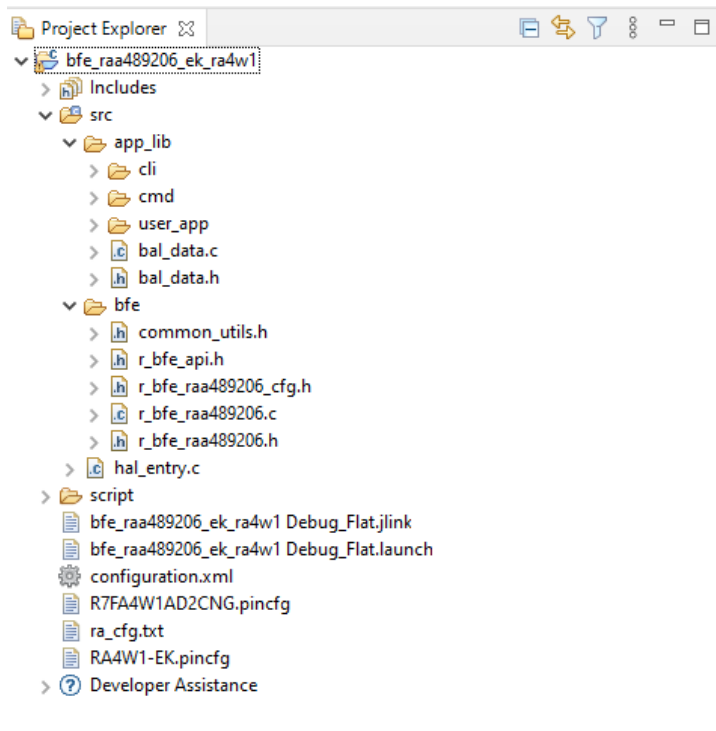

Figure 7. Structure of the Sample Project
4. The project is now imported into the e2 studio workspace. Figure 7 shows the imported project structure